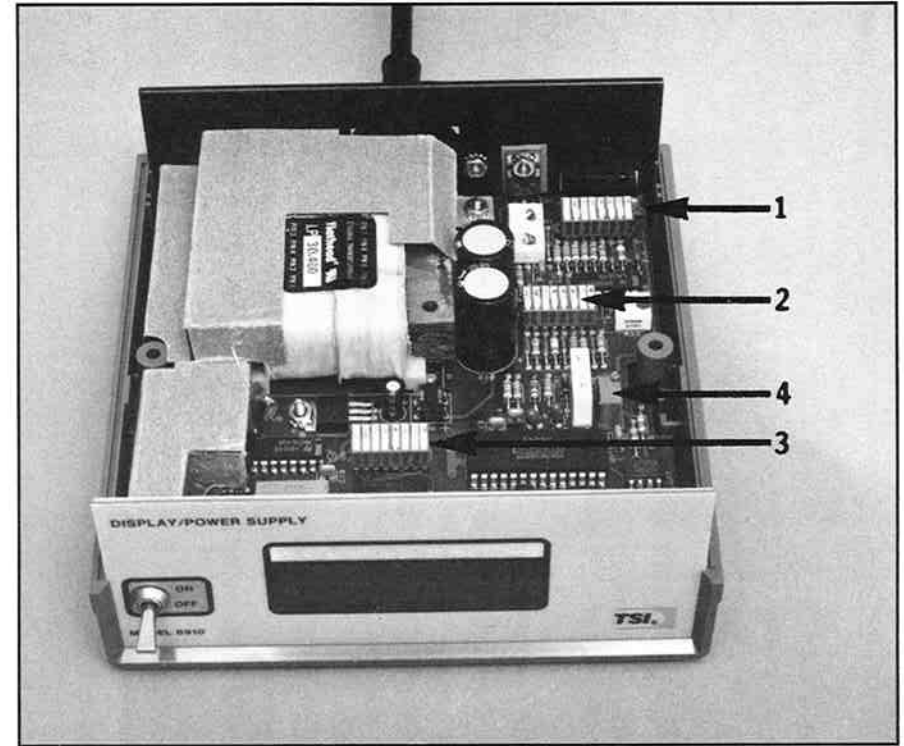
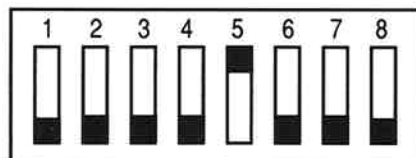
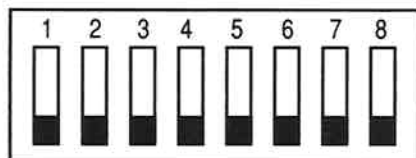
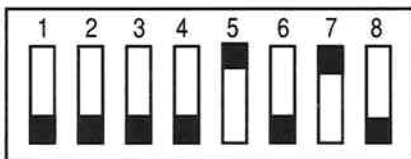

Figure 7. Display/Power Supply with cover removed
Figure 9.
Figure 10.
Figure 12.
- 2 After you remove the cover, position the Display/Power Supply so that the display faces you, as shown in figure 7.
- 4 Using figure 7, locate the three 8-position DIP switches.
- 5 Using figure 7, locate the DIP switch closest to the front panel (SW3). To light up all digits and turn off all decimal points, set SW3 according to figure 9.
- 6 Using figure 7, locate SW2. To set the rough scale, start by setting all eight positions to the *off* position (fig. 10). The display then flashes to indicate an overrange condition.
- 7 Locate the fine-scale adjustment potentiometer in figure 7. With a small flat-blade screwdriver, turn it clockwise about 20 revolutions; this ensures that the adjustment is at one of its limits.
object is to turn on the positions one by one until the displayed reading falls *below* the desired value. At that point, turn off the position you just turned on so that the reading climbs back above the desired value. Skip over that position and move down to the next one. In this way you bring the reading closer and closer to the desired value, until you reach a value that is just slightly *higher* than the value you desire. When you can get no closer to the desired value with the DIP switch, use the fine-scale adjustment potentiometer (fig. 7); turn it counter-clockwise until the display reads the desired value exactly.
- 3 Locate the DIP switch closest to the back panel (SW1, fig. 7). If you are using the module with an input of 0 to 5 volts DC, set SW1 as shown in figure 12.